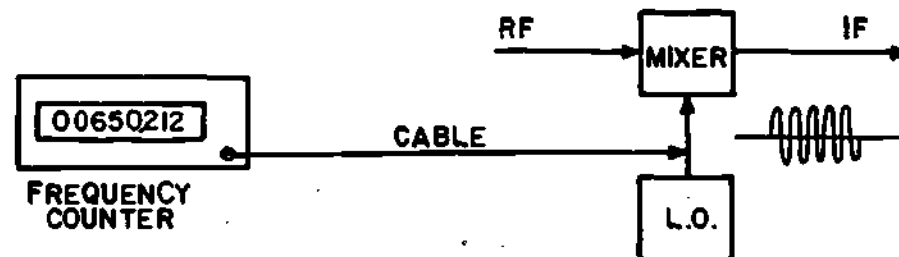

Figure 12
⑱ One additional point concerning series and shunt-type Hartley oscillators. The type of transistors used in the circuits can be either PNP or NPN. Further, there are other ways to represent the circuits schematically th.
- ①9) Often it is necessary to determine the operating frequency of an oscillator. The basic method used for making this determination is shown pictorially in Figure 12.